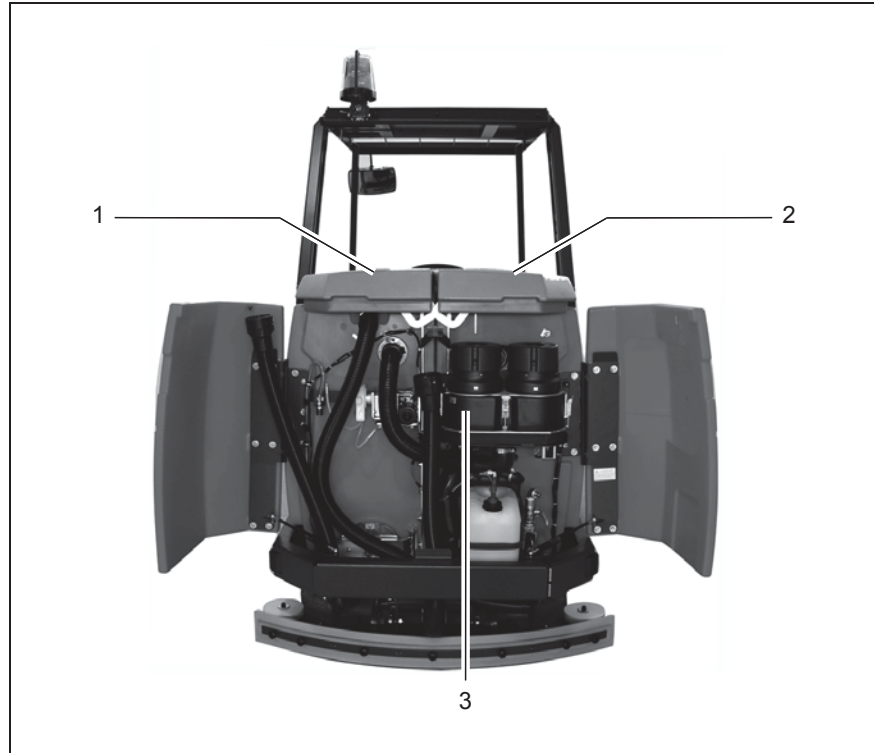

Fig. 16
3.1.4 Suction turbines (suction) (Fig. 16/3)
(Fig. 16/2)
(Fig. 16/1)